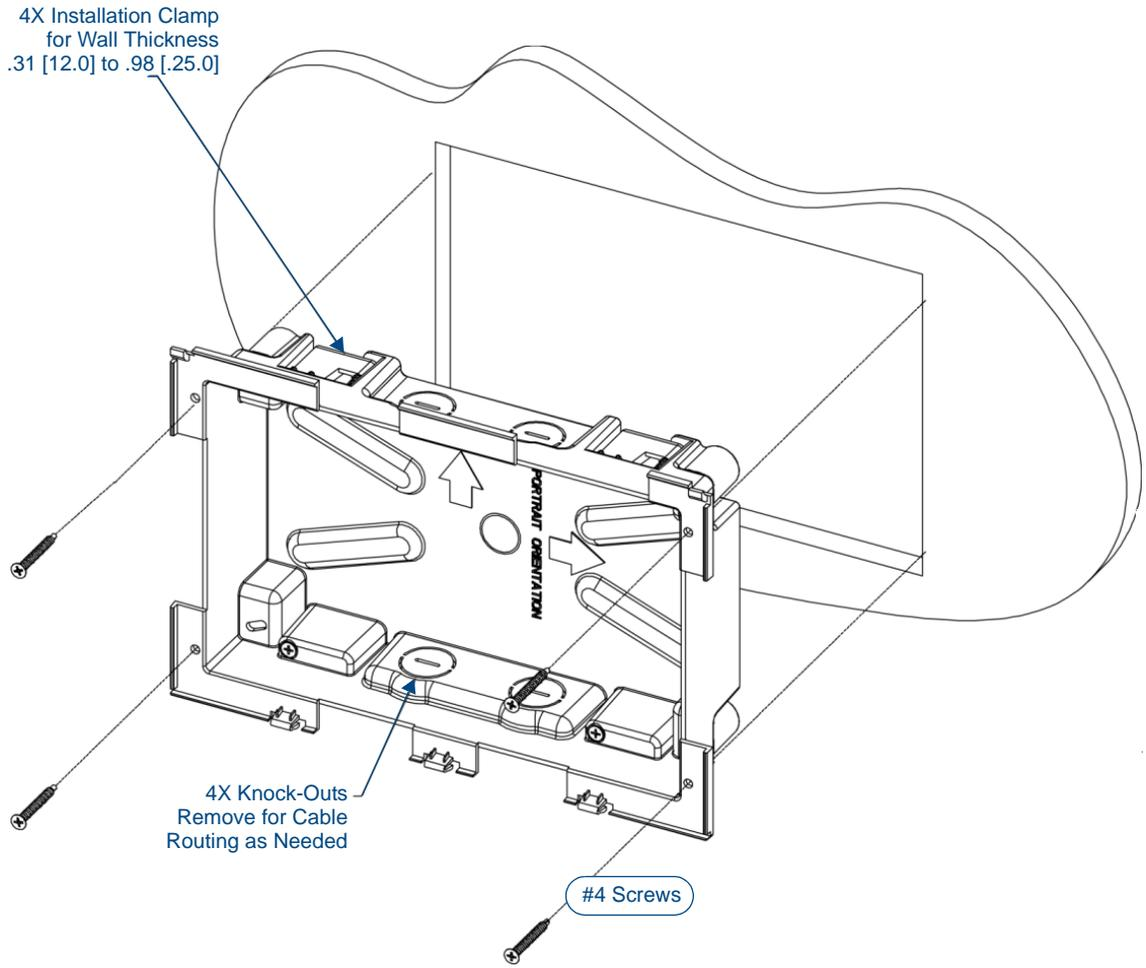
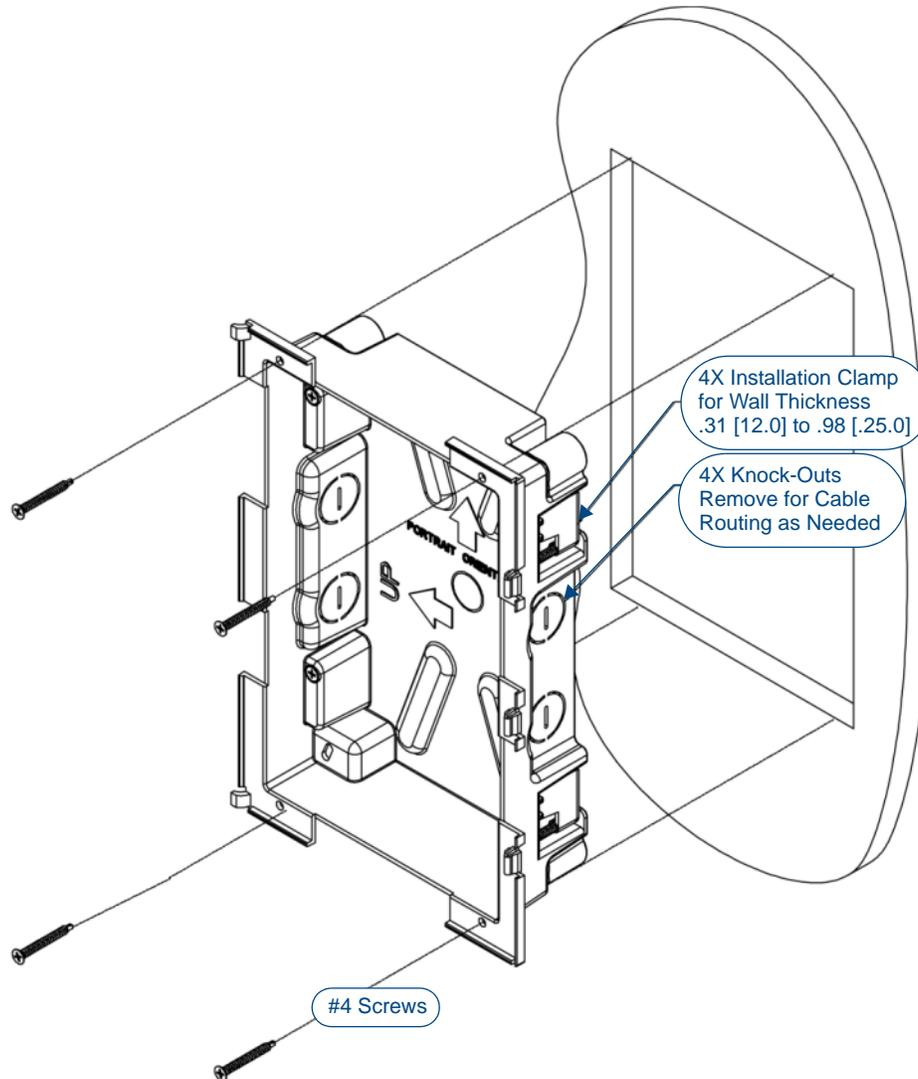

FIG. 19 MXD-1000 Backbox Installation (Landscape)
FIG. 20 MXD-1000 Backbox Installation (Portrait)
3. Thread the incoming cables through the surface opening (FIG. 19 and FIG. 20).
4. Remove the Backbox knockouts (FIG. 19) and thread the incoming wiring through the knockout holes.
- For additional strength, #4 mounting screws (not included) may be secured through circular holes located at the left and right sides of the MXD-1000 (FIG. 19). In order to prevent damage to the touch panel, make sure that these are flush with the Backbox.